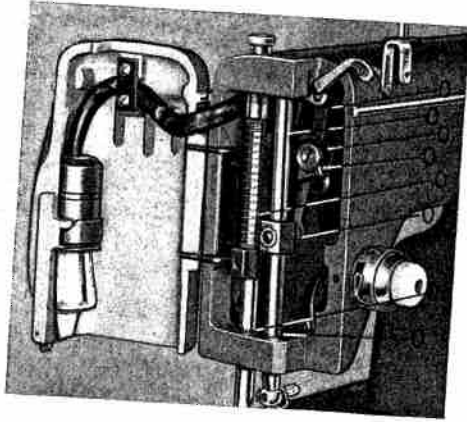

Fig. 12
1. The Head (Fig. 12). Open the hinged face cover plate.